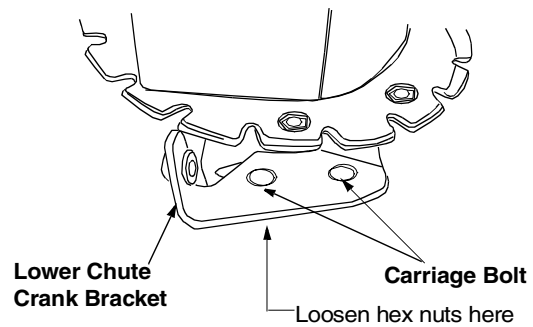

Figure 5
- You may have to loosen the carriage bolts and hex lock nuts which secure the lower chute crank bracket to the extension on the left side of the chute assembly. See Figure 5.
- Place the right turn trigger in position underneath the right handle. Secure with screw and weld nut from group G of the hardware pack. See Figure 5. You will need a phillips screwdriver for tightening the screw. Repeat on the left side.